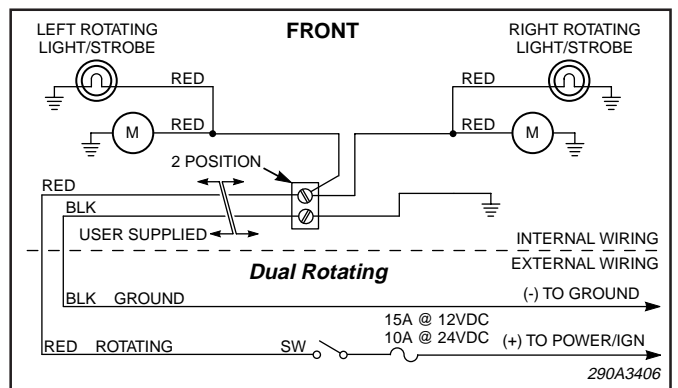

Figure 6.
9. Route the wires/cable inside the light assembly to the terminal block. Cut the wires to the appropriate length. Strip approximately 1/4" of insulation from the end of both wires. See figure 6. Connect the positive (+) lead to the terminal block position with the red wire(s). Connect the negative (-) lead to the terminal block position with the black wires.
10. Replace the lenses starting with the left (L) lens. Secure the lenses using the supplied plastic fasteners. Note that the smaller fasteners are used in the end positions.